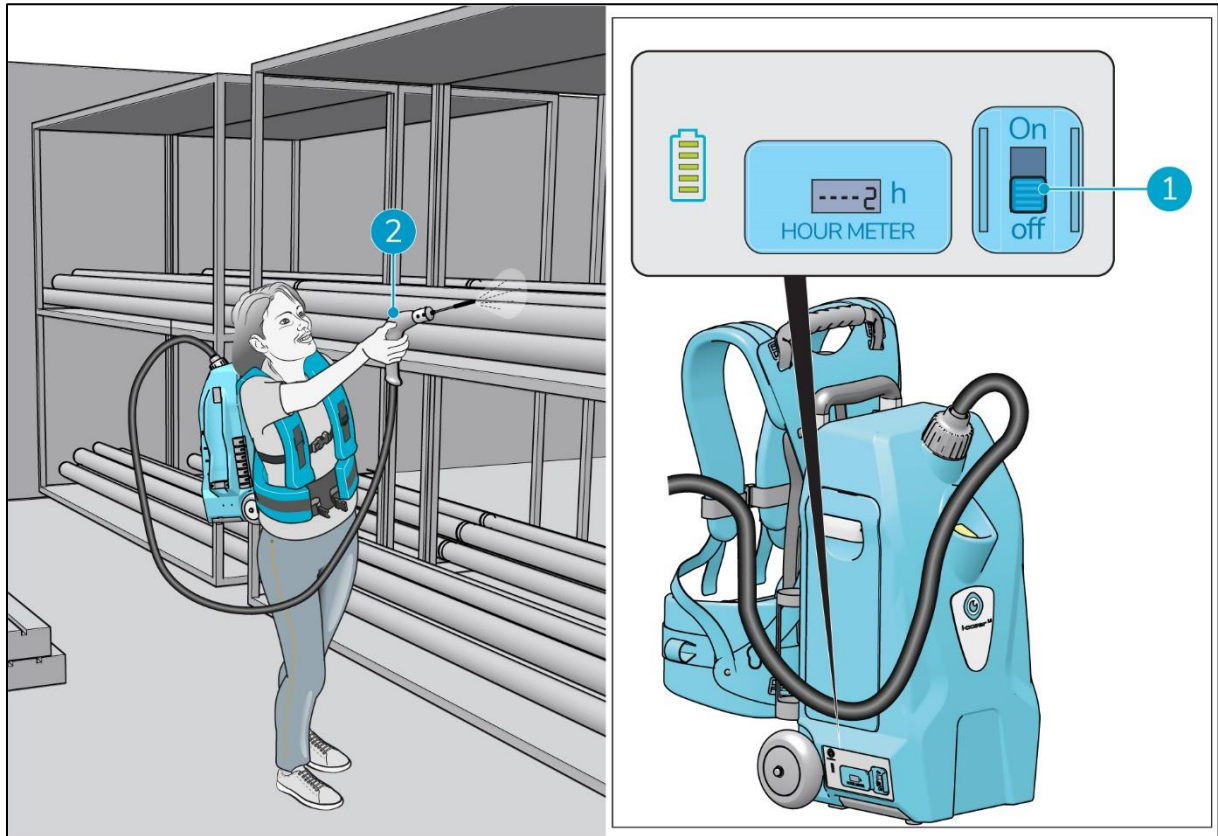

Figure 18
6. Press the ON/OFF switch (Figure 18, pos 1) to turn on the i-cover® 2.5. The hour meter and the battery power status display light up. See also section 2.1.
7. Press the ON/OFF switch on the spray gun (Figure 18, pos 2).